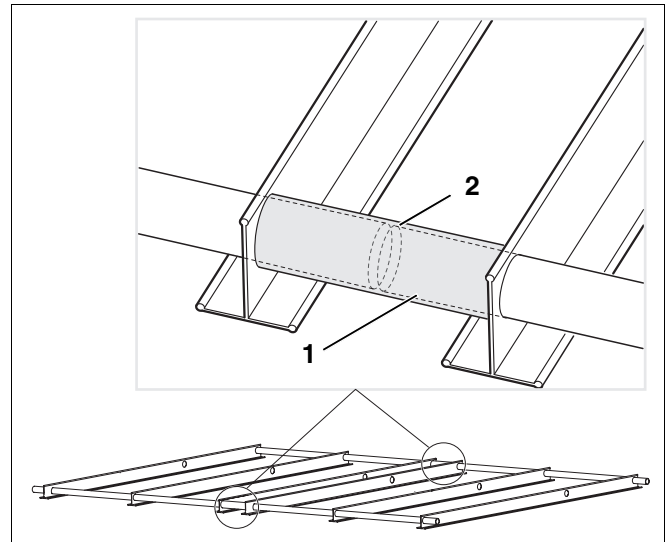

Fig. 22 Spacer pipes between two base frames
- Push both spacer pipes included (Fig. 22, **Item 1**) over the round tubes of the first base frame.
Ensure that you push the round tubes respectively to the middle of the distance pipes (Fig. 22, **Item 2**).